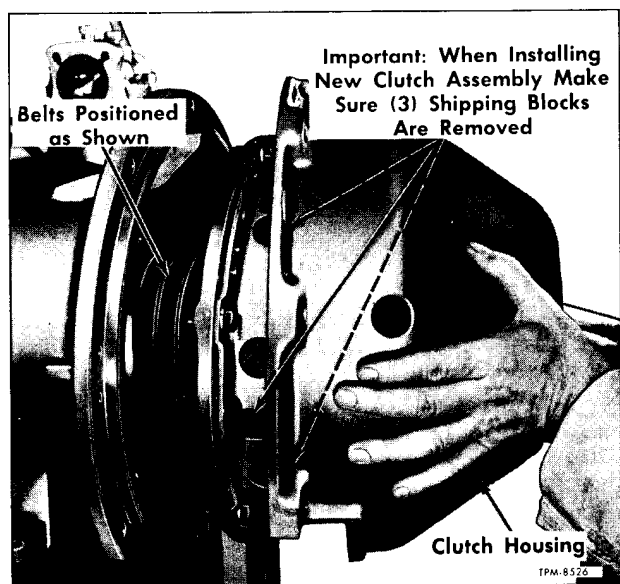

Figure 69—Installing Clutch Housing Assembly
1. Install three condenser fan pump drive belts over pulley grooves of compressor flywheel (fig. 69). If pump is installed, place belts over pump pulley also. Make sure each belt is in respective pulley groove.